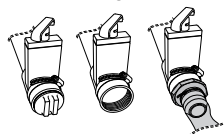

Figure 13.3e
3. Unscrew drain valve cap (Figure 13.3e). Place the cap aside.
4. Screw in the adapter with hose that was included in the equipment bay. Attach it to the quick drain (Figure 13.3e). Make sure to direct the hose to an area where the water will drain properly.